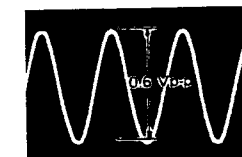

Fig. 2-6
- (1) Connect an oscilloscope to pin ⑤ of CN1 on SG BOARD.
- (2) Provide an SC signal (2 Vp-p) from EXT. MASTER SSG to SC input.
- (3) Adjust R29 (EXT. SC LEVEL) so that the SC amplitude is 0.6 Vp-p  $\pm$  0.1 V as shown in Fig. 2-6.